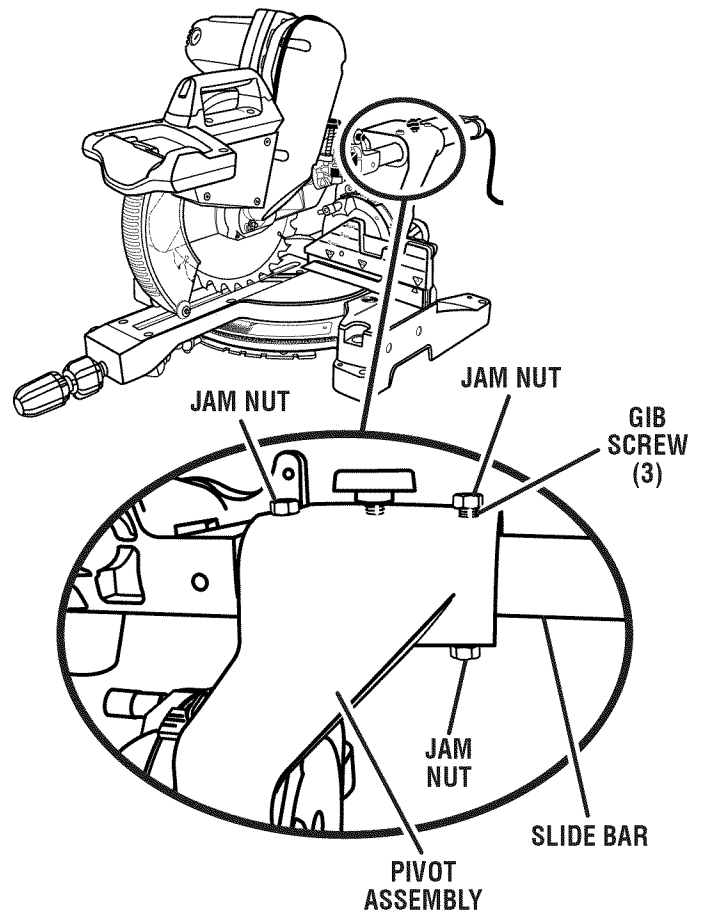

Fig. 22
See Figure 22.
- Loosen the jam nut on the top and bottom gib screws. See Figure 22.